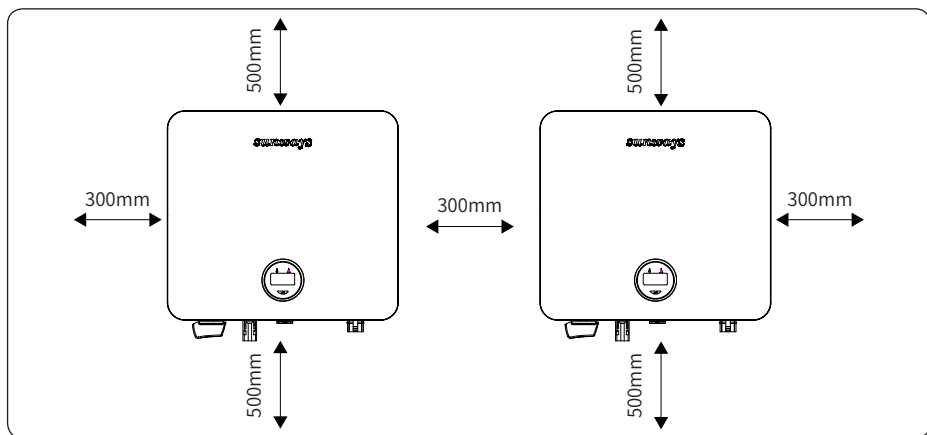

Figure 4-2 Recommended installation space
4.1.2 The requirements for inverter installation spacing are shown in Figure 4-2: